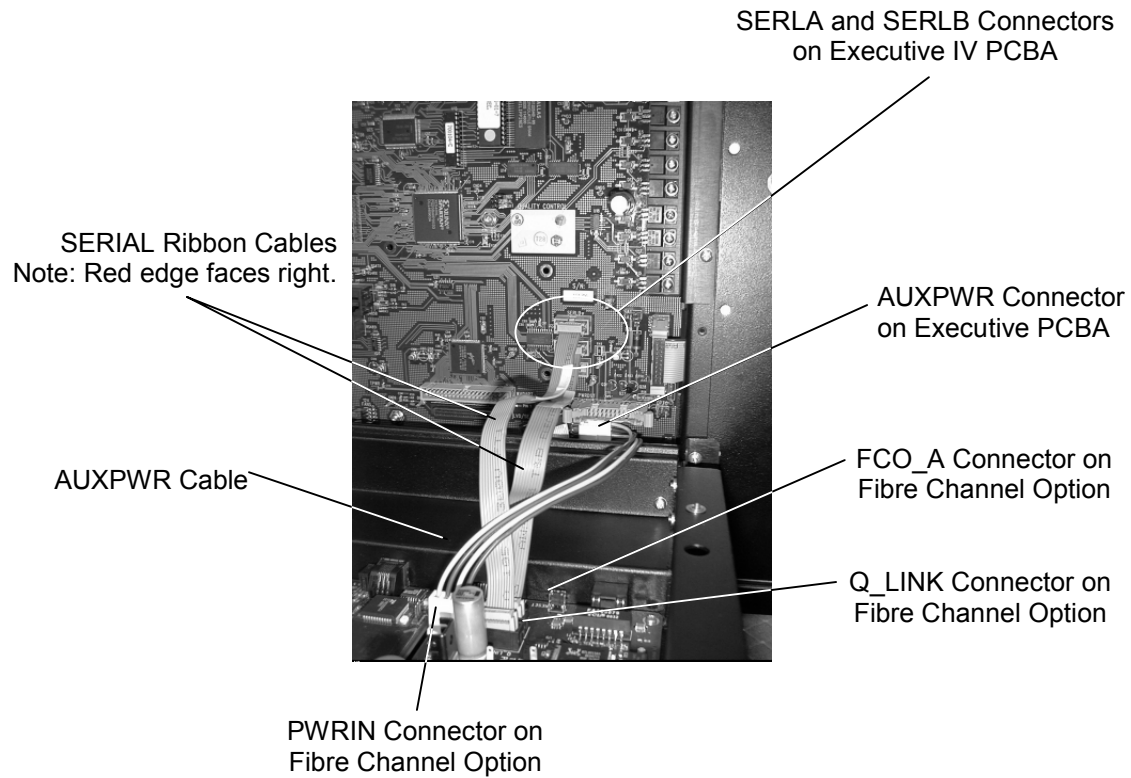

Figure 9-5 Detail of Connections in a Type C FCO
- Carefully disconnect the AUXPWR cable from the PWRIN connector on the Fibre Channel Option. See Figure 9-5.
10. Carefully disconnect the SERIAL ribbon cable from the FCO_A connector on the Fibre Channel Option. For those FCOs that also have Q-Link, carefully disconnect the SERIAL ribbon cable from the Q_Link connector on the FCO. See Figure 9-5.